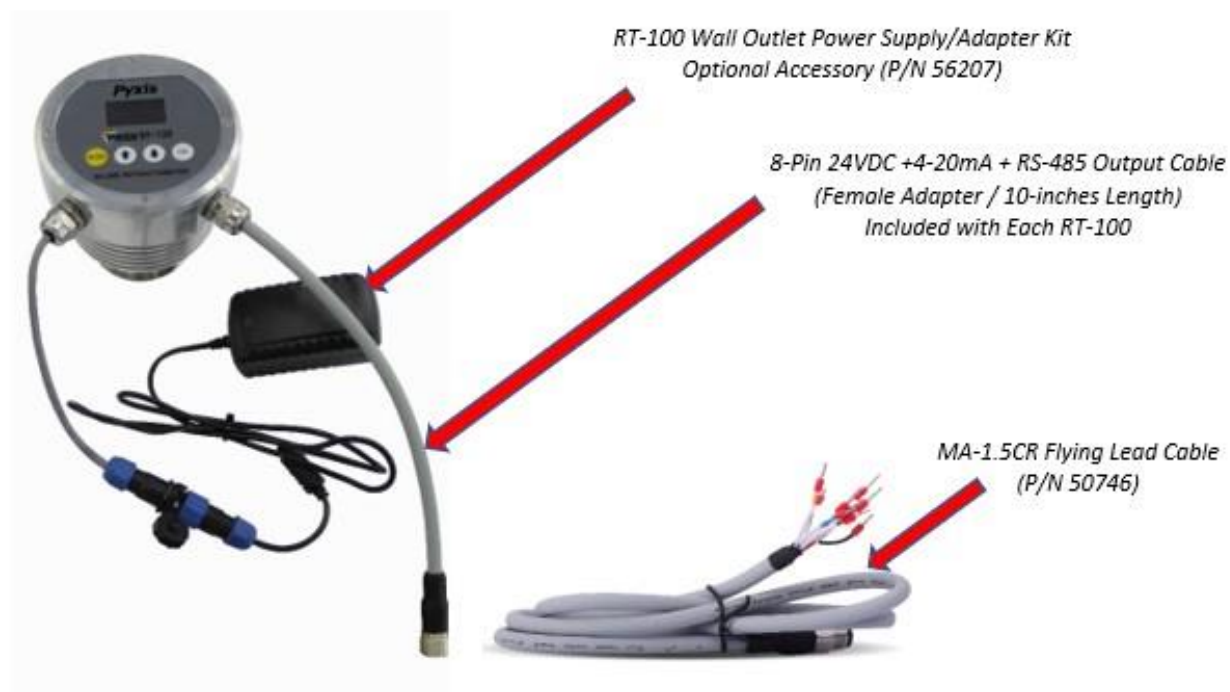

Figure 6. Prism RT-100 with Wall Outlet Supply Adapter Kit (P/N: 56207) and MA-1.5CR Flying Lead Cable (P/N: 50746)
The Prism RT-100 unit offers two (2) cable points of attachment, both terminated with a unique connector (Figure 6). The Prism RT-100 may be powered via a direct 24VDC supply source (via 8-Pin cable provided with the Prism RT-100) or by the provided accessory called Prism RT-100 Wall Outlet Power Supply Adapter Kit (P/N 56207). Explanation of each option below: